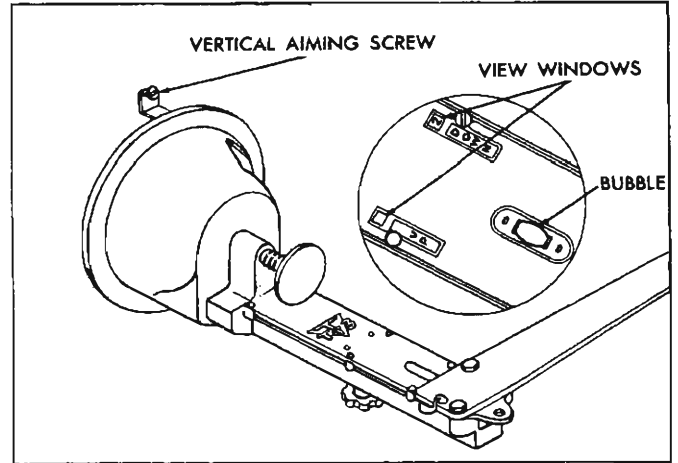

Fig. 7—Selecting Level Aiming Area
3. Loosen the slider knob beneath the aimer arm and set the numeral "2" in the DOWN view window (fig. 7). Back vertical lamp adjuster out on each lamp until bubble is outside of black line of vial, then center bubble in between black line of vial by turning clockwise.